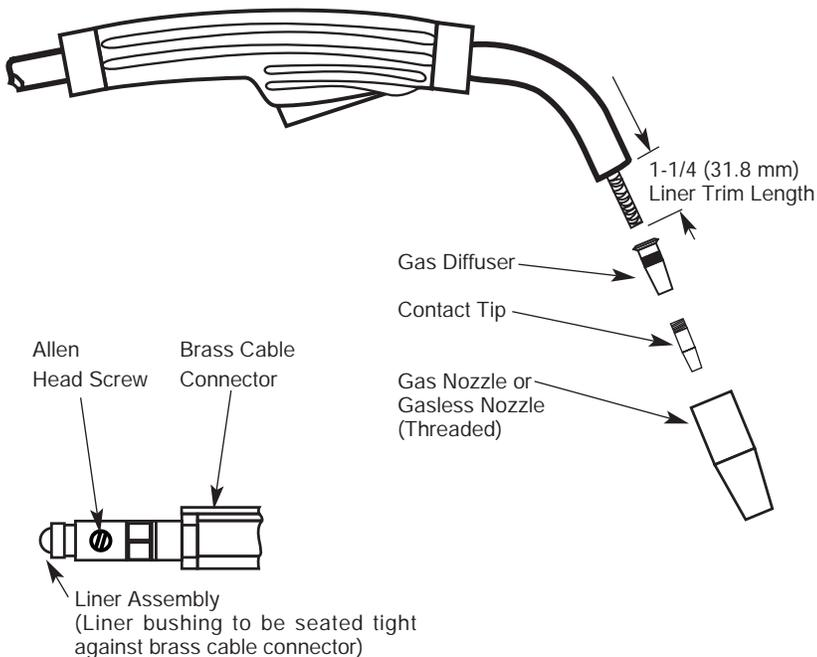

FIGURE D.2b
3. If the gun is a Magnum 100L Fig D.2b. Remove the gas diffuser from the gun tube by unscrewing counter-clockwise.
- 7B. (For Gun Shown in Fig D.2b)
With the gas nozzle and diffuser removed from the gun tube, be sure the cable is straight, and then trim the liner to the length shown in the Figure D.2b. Remove any burrs from the end of the liner. Screw the gas diffuser onto the end of the gun tube and securely tighten.